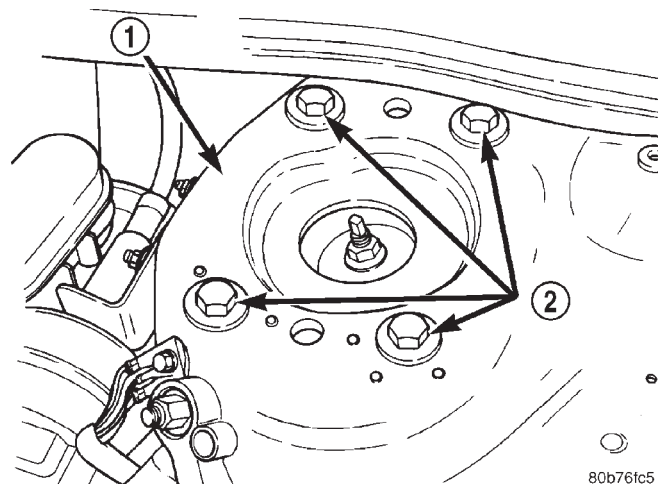

Fig. 11 Shock Assembly Attachment To Shock Tower
(11) Remove the 4 bolts (Fig. 11) attaching the shock absorber/upper control arm mounting bracket to the shock tower of the vehicle.
(12) Remove the shock assembly from the vehicle. The shock assembly is removed out through the front area of the front wheel well.
(13) For disassembly and assembly of the shock assembly, refer to DISASSEMBLY AND ASSEMBLY in this section of this group.
(1) Install the shock assembly, with the clevis removed, into shock tower. Aligning the 2 locating pins and the 4 mounting holes on the upper control arm shock absorber mount with the 4 holes in shock tower. Install the 4 upper control arm mount to shock tower mounting bolts (Fig. 11). Tighten the 4 bolts to a torque of 95 N·m (70 ft. lbs.).
(2) Install the clevis on the shock absorber. Clevis is installed by tapping it onto the fluid reservoir of the shock absorber using a soft (brass) drift until fully seated against locating tab on shock absorber